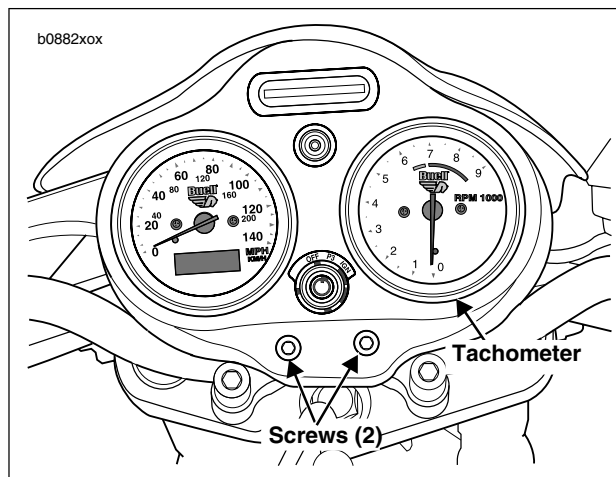

Figure 7-89. Dash Panel (Front)
2. See Figure 7-89. Detach instrument panel by removing two screws holding panel to instrument support clamp. Pull dash panel upward, but do not damage wiring.
- b. Apply LOCTITE THREADLOCKER 243 (blue) to both nuts (metric) (20).
- c. Fasten cover (18) to tachometer using two nuts (metric) (20) and lockwashers (19).
5. See Figure 7-89. Position dash panel on instrument support clamp.